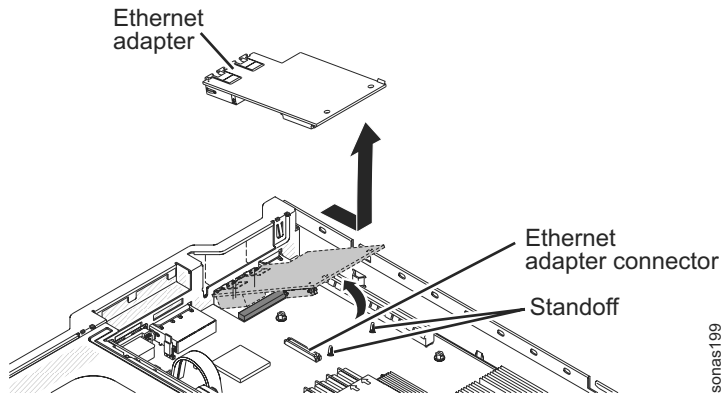

Figure 12. Removing the Ethernet adapter
6. Grasp the Ethernet adapter and disengage it from the standoffs and the connector on the system board; then, slide the Ethernet adapter out of the port openings on the rear of the chassis and remove it from the server. See Figure 12 on page 107.